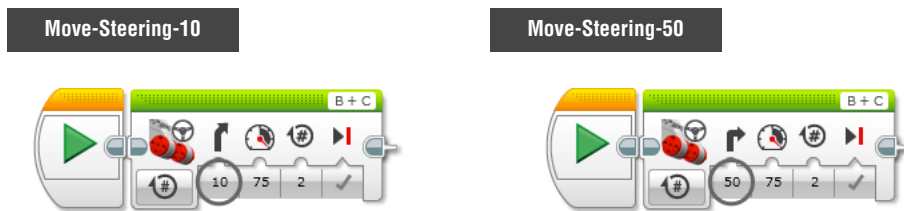

Figure 4-30: Programming the Motor Steering Block with different steering values
3. Create the codes for the Move Steering-10 and the Move-Steering-50 programs to resemble the image in Figure 4-30. The mode and input values of the Move Steering block for each program should be same (Power: 75 and Rotations: 2). The steering values, however, will be different.